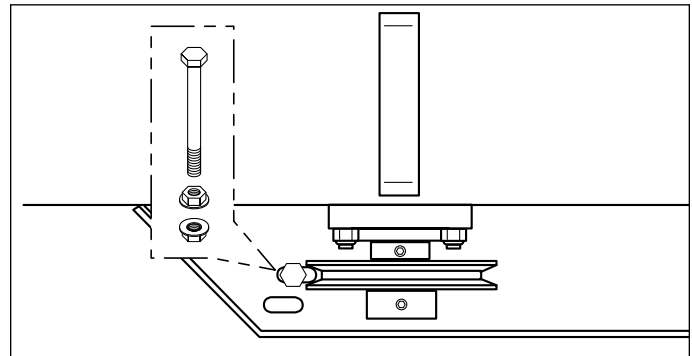

Figure 29. Install Blower Pulley & Guide Bolt
13. Install one 3/8-16 flange nut on the 3/8-16 x 6" bolt and tighten against the end of the threads (see Figure 29). Install drive belt on the drive pulley and install the 3/8-16 x 6" bolt. Leave enough space between the belt and bolt so it will not interfere. Secure the bolt with a 3/8" serrated flange nut.